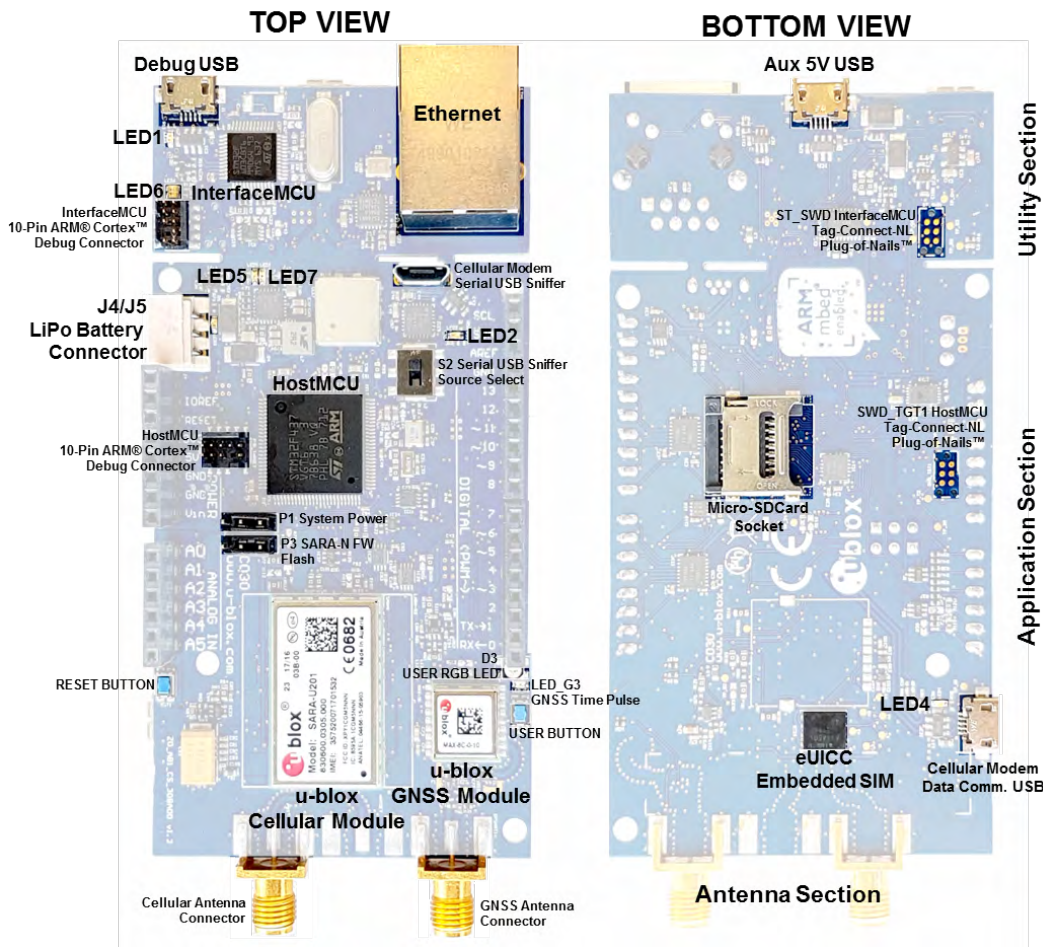
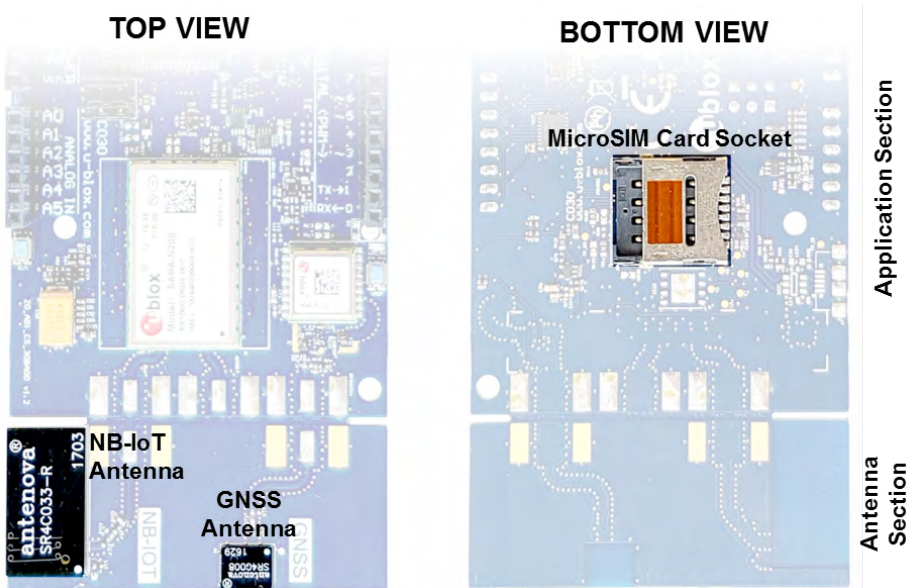

Figure 4: C030-U201 major component locations
Figure 5: C030-N211 variant specific component locations
- The C030-U201 and C030-N211 major component layouts are provided in Figure 4 and Figure 5.
The C030-N211 NB-IoT variant specific component locations are shown in Figure 5.
The C030 is equipped with several buttons, jumpers and a switch that could be easily utilised by the user. The functions and locations of these components are provided in Table 1 and shown in Figure 4.
The C030 LED indicators are listed in Table 2 and their locations are depicted in Figure 4.
The C030 has various connectors as listed in Table 3. See Figure 4 and Figure 5 for connector locations.